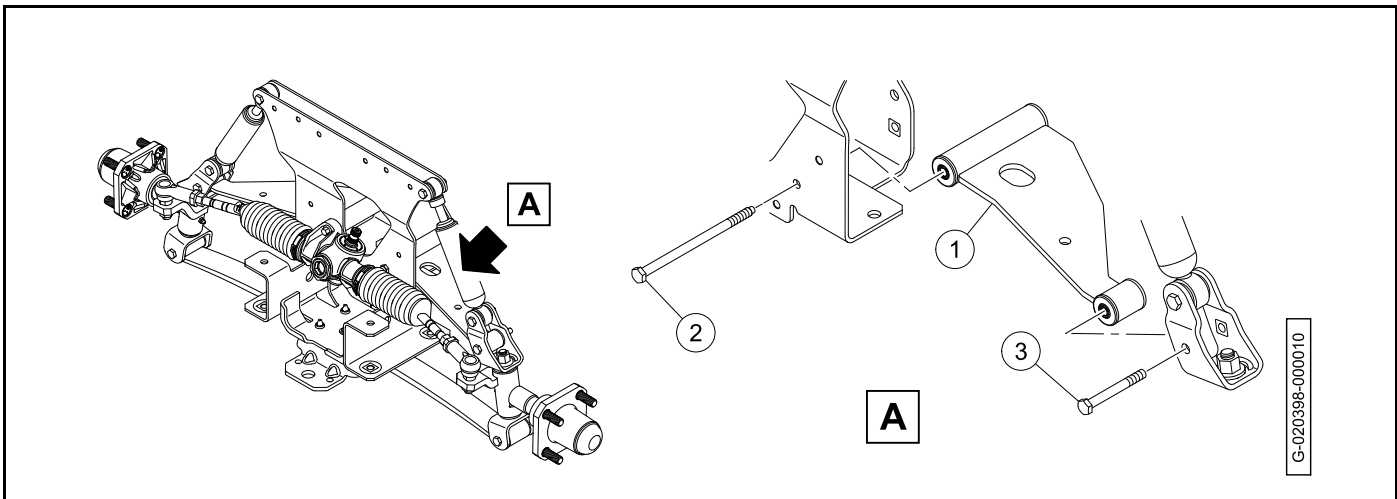

Figure 7-32
1. Put the control arm (1) into position on the vehicle (Figure 7-32).